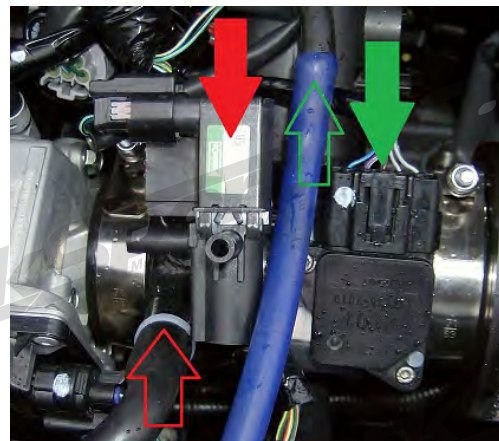

Figure 9
B) Install the larger factory breather hose into the barbed fitting as shown by the hollow red arrow in Figure 9.
C) Place the air temperature sensor into the rear most silicone nipple by pushing down and twisting at the same time (solid red arrow shown in Figure 9).
D) Plug in the MAF sensor (solid green arrow shown in Figure 9). Double check that the MAF sensor is fully seated into the MAF housing. Loosen it, reseal it and tighten the socket head cap screws if necessary.
E) Insert one of the 10in long 4mm silicone hoses onto the smaller factory breather hose (hollow green arrow shown in Figure 9).